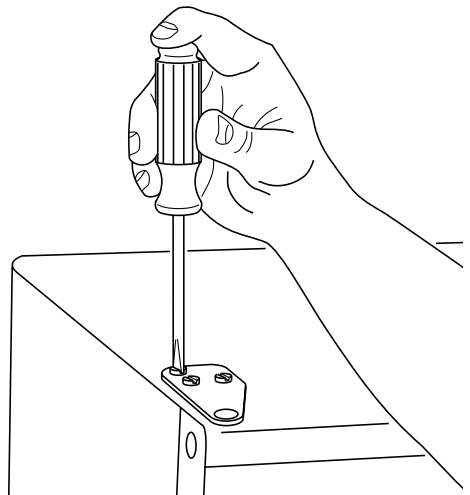

**Figure 21**
7. Remove plastic hole plug from door handle and relocate on opposite side. See Figure 21.
5. Remove pivot screw from top hinge, invert screw and reinstall pivot screw in top hinge. See Figure 21. Do not install hinge on cabinet at this time.
7. Remove pivot screw from bottom hinge, invert screw and reinstall pivot screw in hinge (see Figure 21).